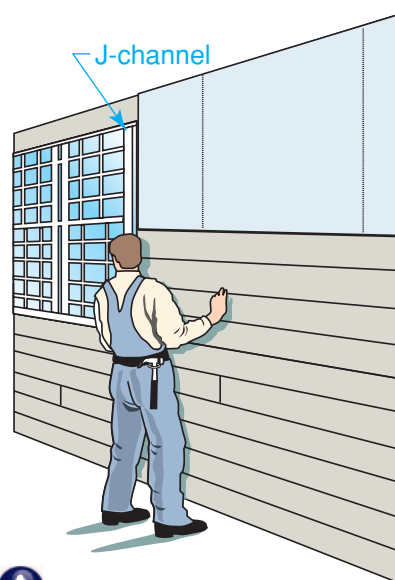

Figure 23-24 J-Channel
Step 5 Place the first panel in the starter strip and nail it into place. Subsequent panels can then be held in place, locked to the previous course, and nailed. The ends of panels fit into J-channel around windows and doors. Leave a $\frac{1}{4}$ " gap between the siding and all corner posts and channels. (Increase the gap to $\frac{3}{8}$ " when installing siding in temperatures below 40°F (4°C) as shown in **Figure 23-24**.)